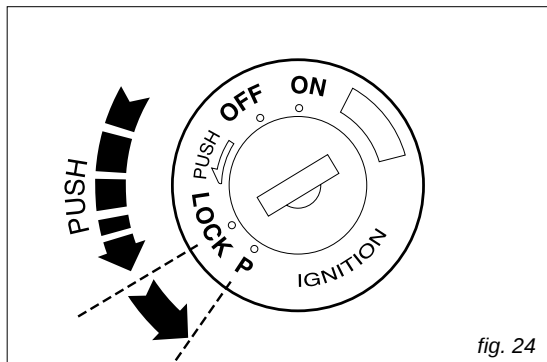

fig. 24
*If needed, you may leave the parking lights on by turning the key to position **P** (fig. 24).*